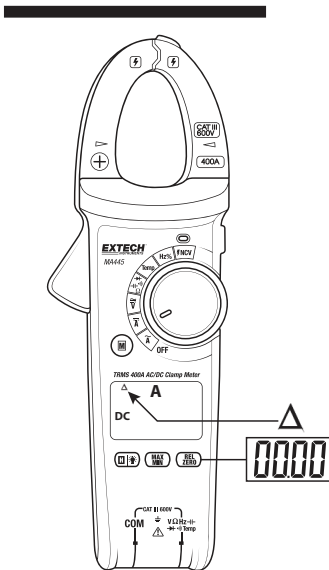
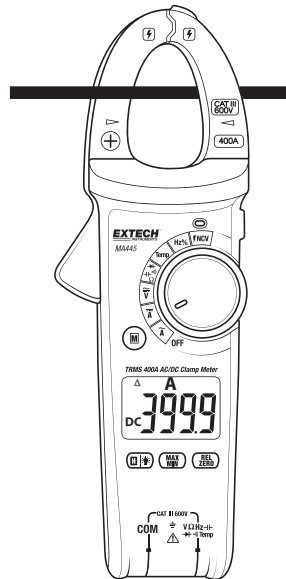

Fig. 3 – DCA Zero before measurement
Fig. 4 – DCA Measurement
3. Zero any residual magnetism by pressing and holding the **REL ZERO** button with no conductor in the jaws. See Fig. 3 and Fig. 4